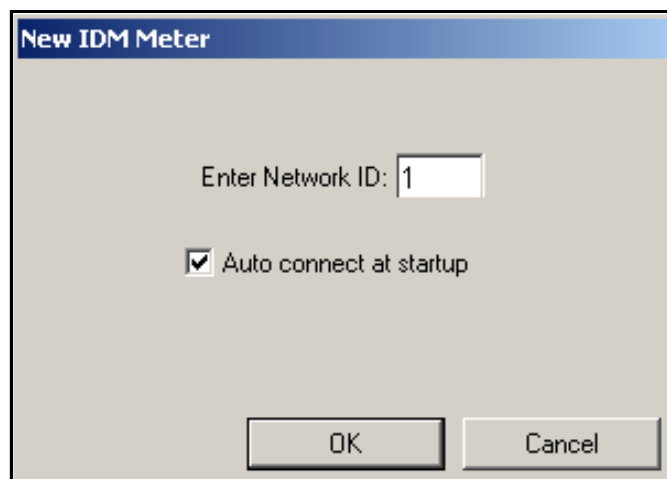

Figure 80: New IDM Meter Screen
4. The “*New IDM Meter*” screen (shown in *Figure 80* below) opens. Enter the Network ID number for the meter, and click [OK].